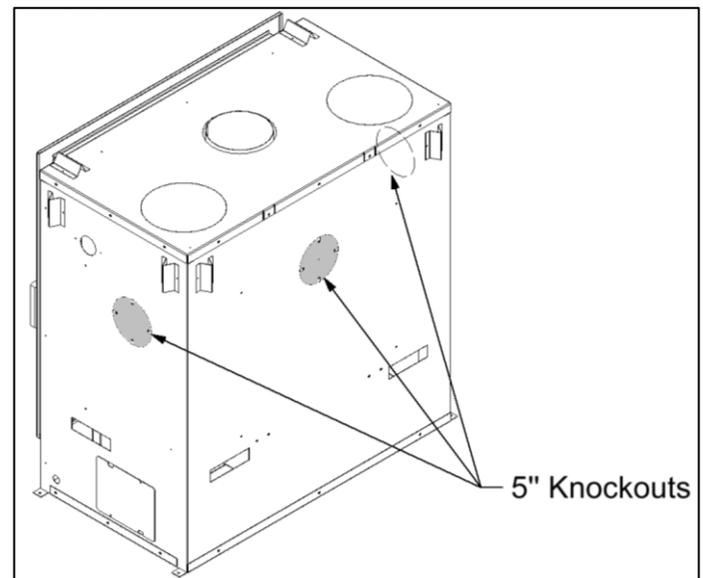

Figure 4-2: Hot Air Kit Knockouts
1. Remove the 5" knockout on the exterior casing of the fireplace using a flat head screwdriver (Figure 4-2).